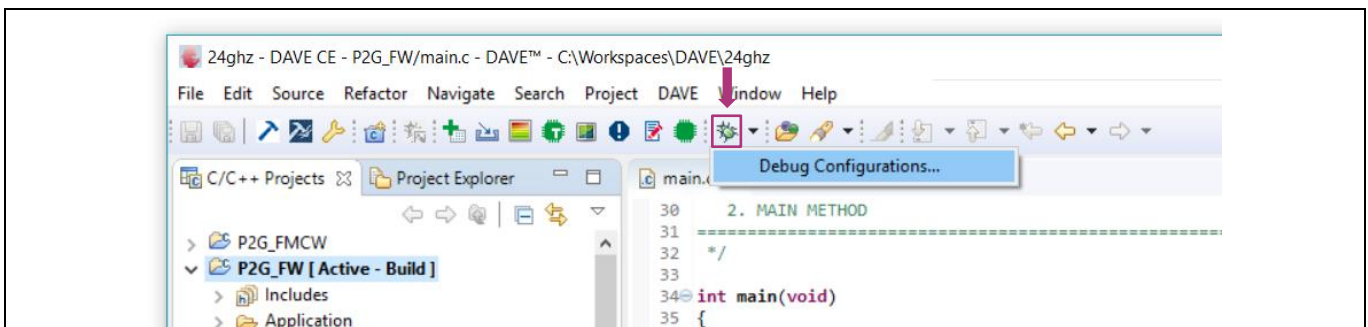

Figure 29 Start debug session toolbar button
- Set debug configurations by clicking on the drop-down menu of the **Debug** toolbar button (bug icon) and selecting **Debug Configurations...** as shown in Figure 29. Alternatively, press key F11 to directly start the debug session.